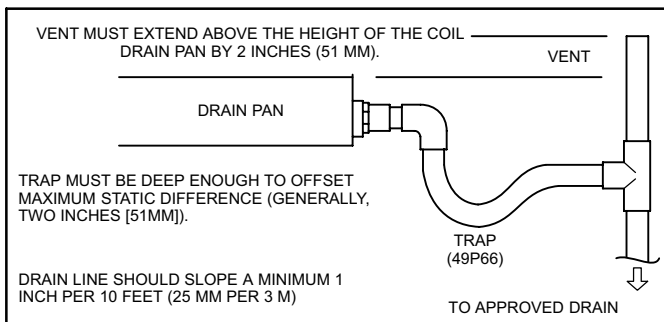

Figure 15. Typical Condensate Drain Connection
1. Install a trap in both drain lines per local codes. If a vent tee is required to reduce friction and static pressure, the trap should be installed between the unit outlet and the vent tee. See figure 15.